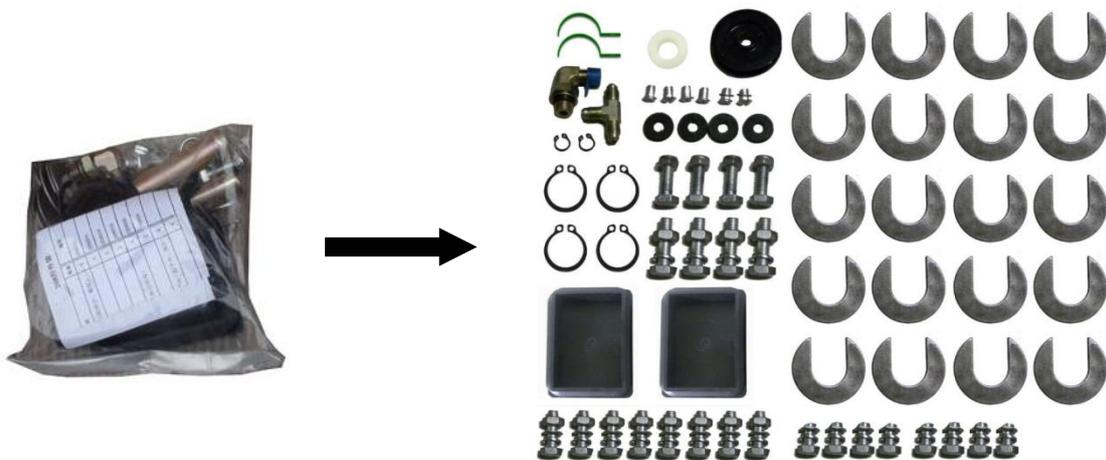

Fig. 13
- Open the bag of parts and check the parts of the parts bag according to parts bag list (See Fig. 13).